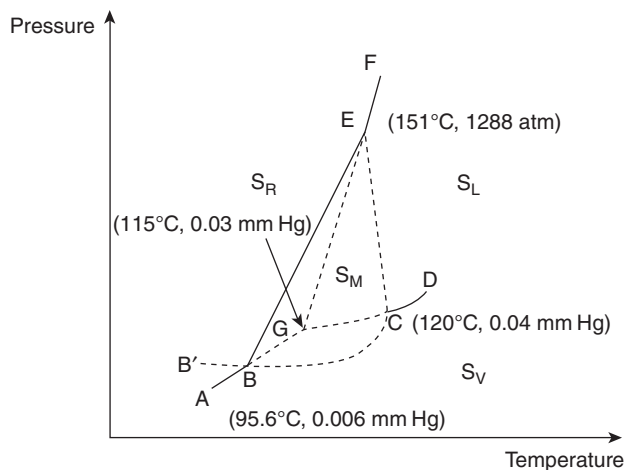

Figure 2 Phase diagram for sulphur system.
As the minimum value of  $F$  is zero, the maximum number of phases that can exist simultaneously is three. Therefore, all the four phases of sulphur cannot exist simultaneously, but any of the three phases can coexist. The phase diagram of the sulphur system is represented in Figure 2.
4. **Curve BE:** It is the transition curve and represents the equilibrium between  $S_R$  and  $S_M$ . This curve shows the effect of pressure on transition temperature of  $S_R$  in to  $S_M$ . Both the phases are solid and the system is monovariant. As shown in the Figure 2, curve BE slopes away from the pressure axis. This means, the slope of this curve is positive, which indicates that the transition temperature between  $S_R$  and  $S_M$  is raised by the increase of pressure. This can also be predicted with the help of Clausius–Clapeyron equation.
5. **Curve CE:** It is the melting point or fusion curve of  $S_M$ . This curve represents the equilibrium between  $S_M$  and  $S_L$ . Hence its degree of freedom is one or it is monovariant. Curve CE represents the effect of pressure on melting point of  $S_M$ . As shown in the Figure 2, curve CE slopes away from the pressure axis. This means, the slope of this curve is positive, which indicates that the melting point of  $S_M$  is raised by the increase of pressure. This can also be predicted with the help of Clausius–Clapeyron equation.